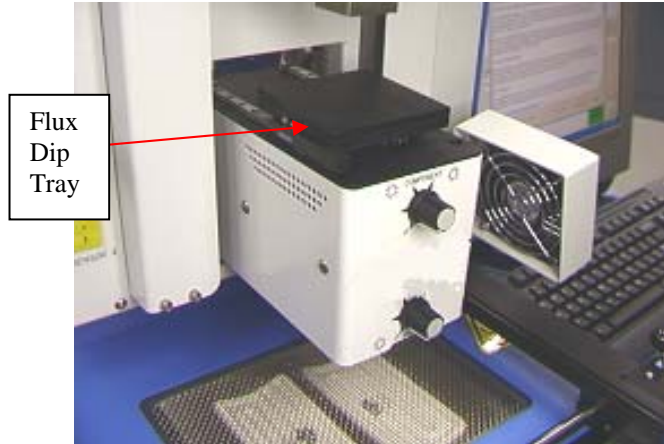

Figure 19
- xi. If Flux Dip option was selected, place the flux dip assembly on top of the camera housing. (Figure 19) Mouse click to dip, then remove flux dip assembly.